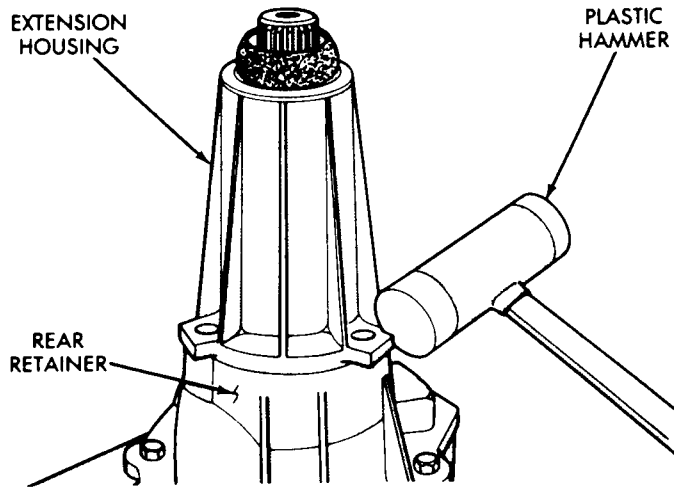
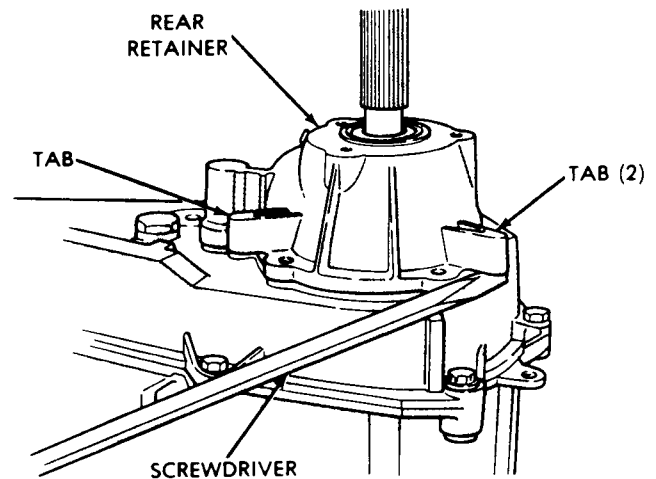

Fig. 1—Remove Extension Housing
Fig. 3—Remove Rear Retainer
- (1) Raise vehicle.
- (2) Remove fill and drain plugs and drain oil from transfer case.
- (3) Mark propeller shaft and transfer case yoke for assembly alignment reference.
- (4) Disconnect propeller shaft. Secure shaft to the underside of vehicle.
- (5) Remove extension seal (if seal or bushing is to be replaced) using suitable tool.
- (6) Install a new seal, if old seal was removed.
- (7) Remove extension housing (Fig. 1).
- (8) Remove speedometer gear from rear retainer.
- (9) Mark rear retainer for assembly alignment reference.
- (10) Remove retainer attaching bolts and remove retainer. Pry retainer with screwdrivers to remove it (Fig. 3).